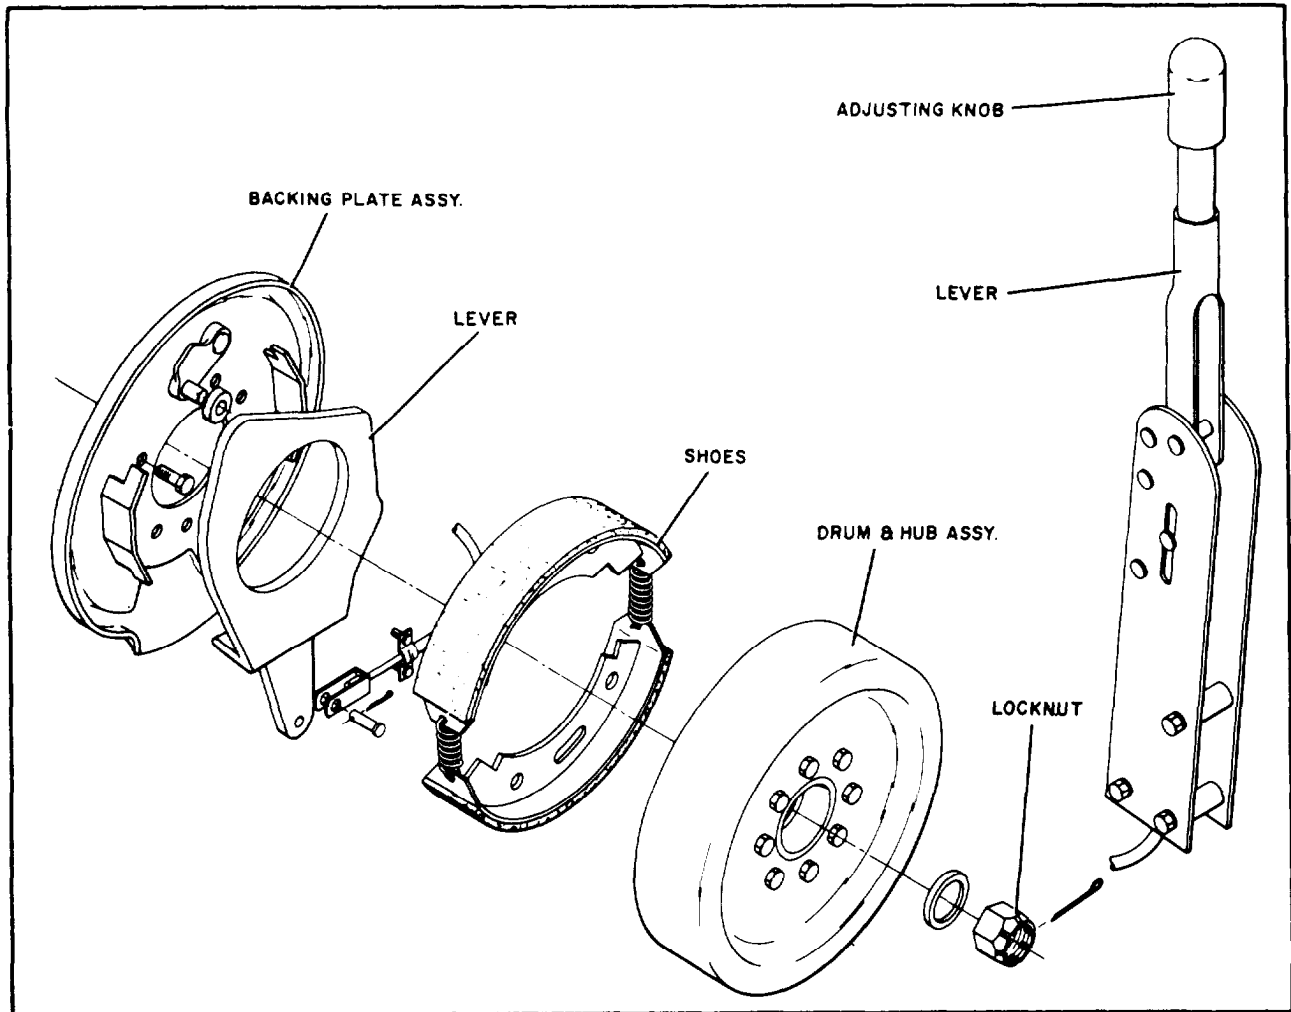

FIGURE 10-18
**10-59. REMOVAL AND DISASSEMBLY (see figure 10-18).**
#### 10-61. REASSEMBLY (see figure 10-18).
10-63. Normally the parking brake requires only one adjustment, which can be made by turning the knob on the handlever (see figure 10-18). Turn the knob clockwise to obtain more braking power and counterclockwise when the lever cannot be pulled up into locking position.